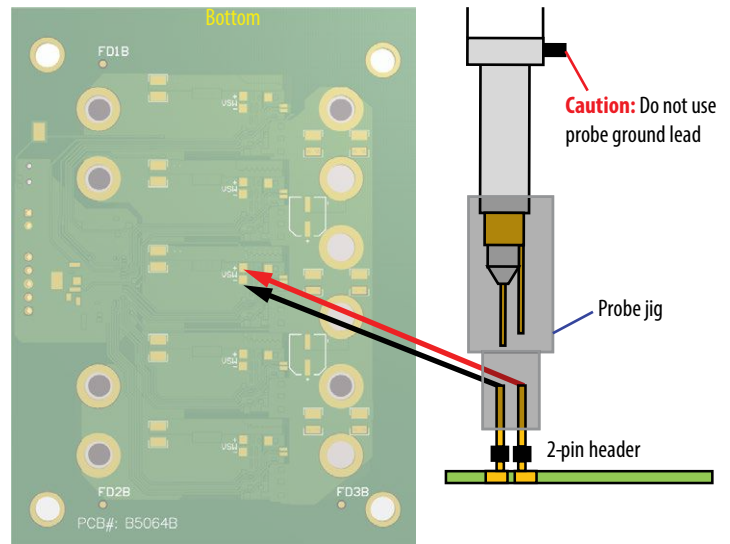
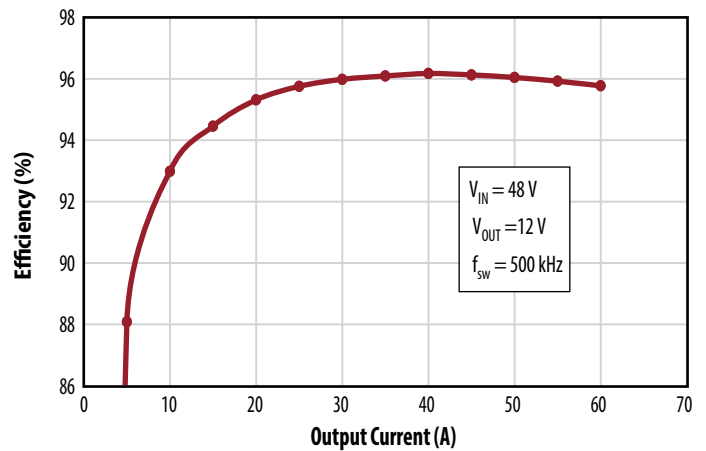

Figure 3: Optional Switch Node Measurement (Bottom)
Figure 5: Typical efficiency curve. 48 V to 12 V.
**NOTE.** When measuring the high frequency content switch node, care must be taken to avoid long ground leads. Measure the switch node by using a probe jig with the oscilloscope probe tip. Refer to figure 3 for proper scope probe technique.
The EPC9130 demonstration circuit was designed to showcase the size and performance that can readily achieved using eGaN FETs. Figure 4 shows typical full-load waveforms under 400 LFM (2 m/s) for a 48 V input voltage, unless otherwise noted, using probe tip adapters as shown in Figure 3. Figure 5 shows efficiency plots for 48 V input voltage at 25°C.